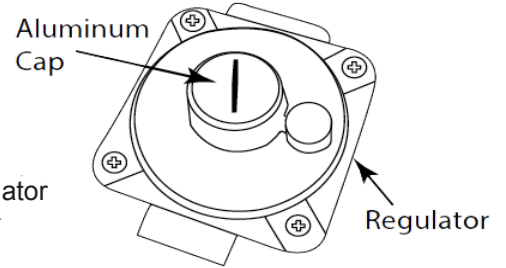

Fig. 3 Regulator cap location
Step 4: Locate the gas regulator on the opposite side of the valve box. Using a regular size flat bladed screwdriver remove the aluminum cap and washer from the regulator. See Fig. 3.